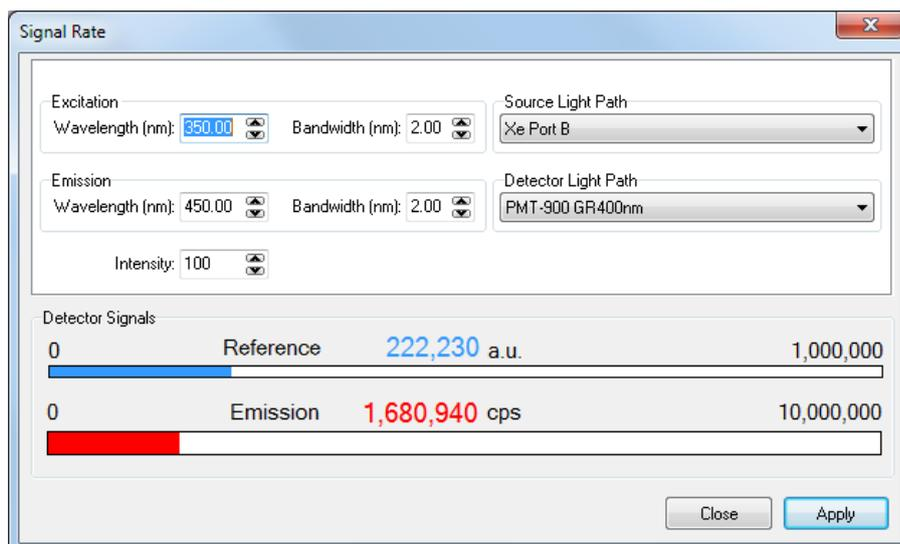

Figure 5-2: Signal Rate window with emission signal exceeding the recommended level
- 2) It is highly recommended to use the Signal Rate dialogue box to set up measurement parameters, i.e. excitation and emission wavelength for which the signal is expected to be at a maximum. During signal rate display and during recording of spectral scans the signal intensity should not exceed 1.5×10^6 cps. Bigger signals will cause saturation effects and non-linearity. Signal exceeding the recommended level will be shown in red (Figure 5-2).